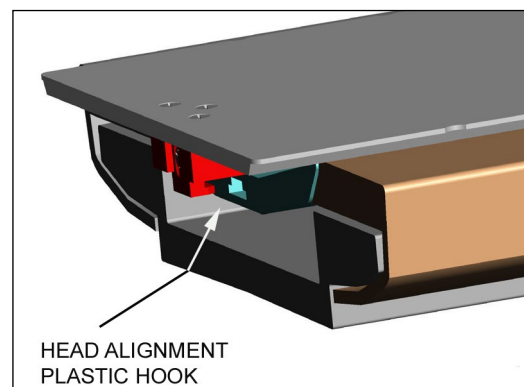

Fig. 25
- Slide the CT Overlay towards the CT cradle Foot End until the locking tab is securely in the CT cradle accessory mounting hole upper cavity. (This alignment will provide CT end left, right and vertical securing) (Fig. 25).